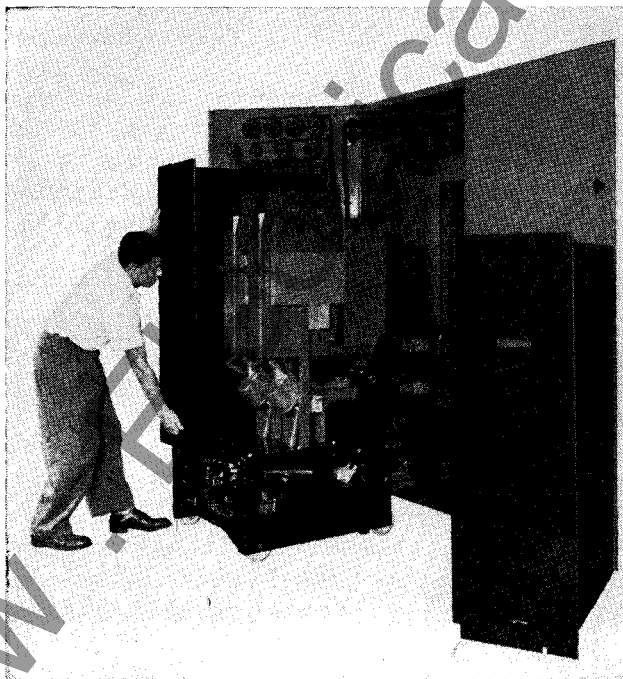

FIG. 39. Removing Interphase Barrier. (Loosen holding bolts and slide barrier forward to expose arc chutes).
**Breaker Contacts.** The breaker contacts are exposed for inspection and maintenance by removing the interphase barrier and arc chutes as shown in Figs. 39 and 40. For the 5 kv breakers the barriers are all in one assembly, while for the larger 7.5 kv and 15 kv breakers the barriers, as